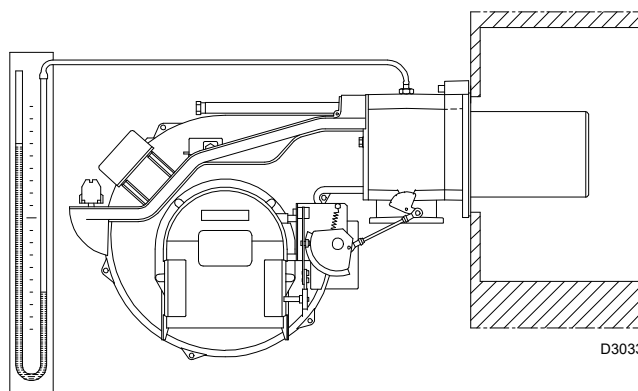

Fig. 28
- Fit a U-type manometer (Fig. 28) to the gas pressure test point on the sleeve.
A rough indication can be obtained from the tables on page 5, just read the gas pressure on the U-shaped pressure gauge, see Fig. 28 on page 25), and follow the instructions on page 21.